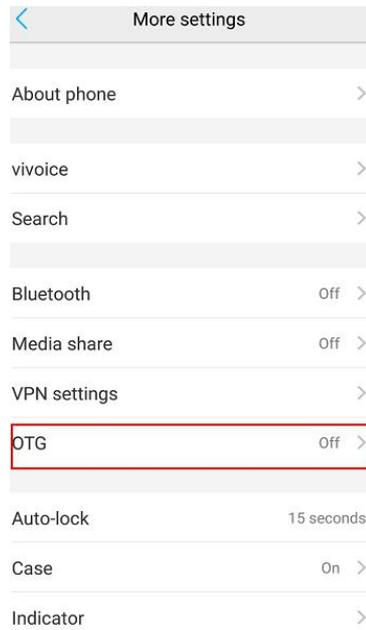

Figure 4-2-1
- 1) Open the OTG function from cellphone SETTINGS---SYSTEM---OTG(the default is Off thus it should be opened every time),see figure 4-2-1.